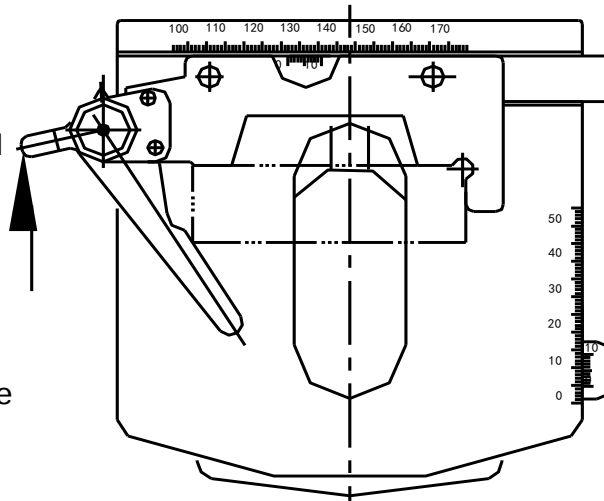

Fig 3. Mechanical Stage
The stage of this microscope is double layers mechanical stage showed in Fig 3. Its size is 125(L)X130(W)mm. Push the rod of the clamp in the arrow direction showed in Fig 3, and insert the specimen into the clamp carefully. Leave your finger away from the clamp, the clip will turn back slowly, and then the specimen will be holded and moved with the clamp. Rotate the knob(14) to move the clamp lengthwise in 30mm. Rotate the knob(15) to move the clamp crosswise in 60mm. The moving precision is 0.1mm in both directions.